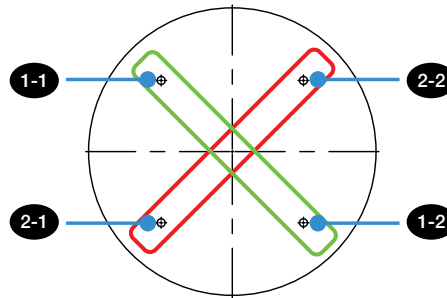
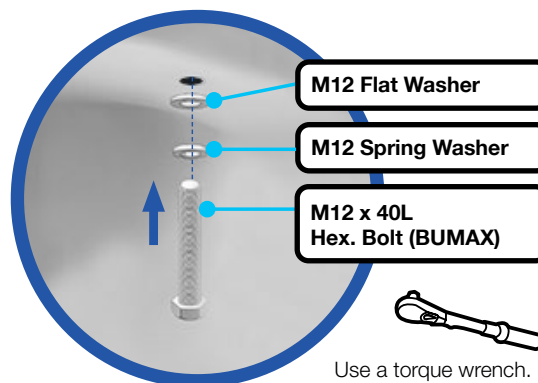

Figure 6: Installing Sequence of Bolts
Figure 7: Installing Bolts for Mounting Antenna
3. Apply Loctite #263 to the bolt threads, insert the bolts and washers from under the mast into the built-in nuts on the bottom of the radome (see Figure 7), and then lightly tighten them by hand. Use a crisscross sequence as shown in Figure 6.